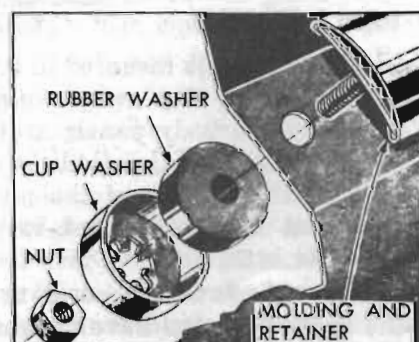

Figure 13-21—Bolt Type Belt Molding Retainer
2. Remove all nuts, cup washers and rubber washers from belt molding retainer bolts in rear compartment. See figure 13-21.